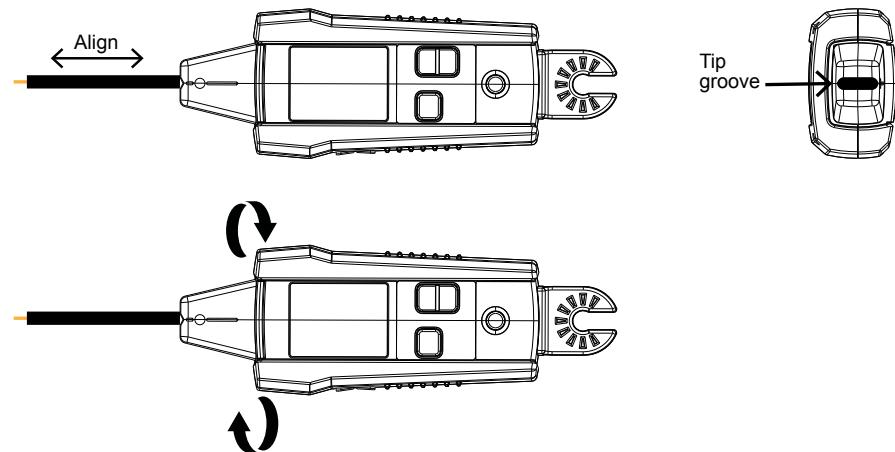

Figure 3.1e: Aligning the tip sensor groove
3. For best results while tracing Energized wires, align groove on the Tip Sensor with wire direction as shown in Figure 3.1e. Signal may be not detected if not properly aligned. To verify wire direction, periodically rotate the Receiver 90 degrees. Signal strength will be the highest when wire is aligned with the Tip Sensor groove. Depending on the detected signal, the Receiver automatically switches to either Energized  or De-energized  mode, and displays this information on the LCD. No manual setup is necessary.